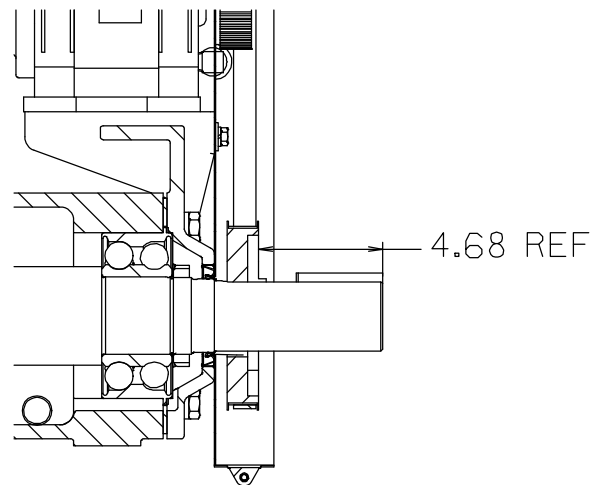

Figure 7. Drive Sprocket Positioning
Install the key (9) in the shaft keyway, making sure to leave room in the keyway for the drive key (28, Figure 3). Install the bushing (6) and sprocket (5) on the shaft to the dimension shown in Figure 7.